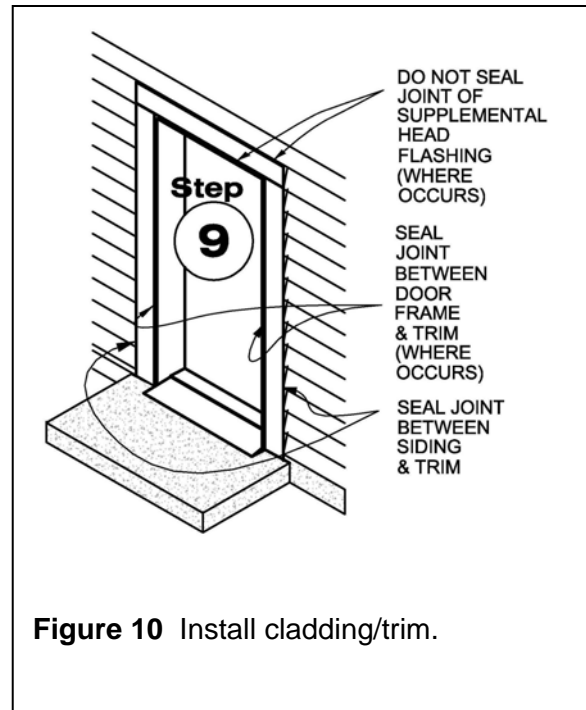

Figure 10 Install cladding/trim.
Step 9. Install trim and/or exterior wall cladding around perimeter of window. Seal perimeter joints per the recommendations of the cladding and window manufacturers (see Figure 10).